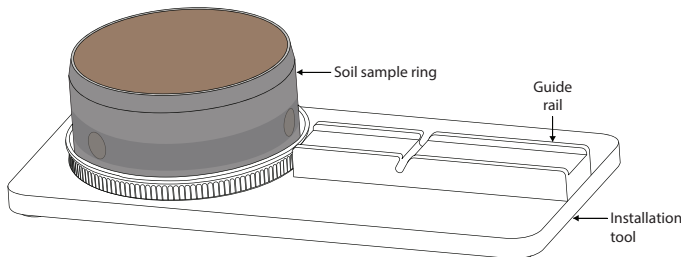

Figure 18 Soil sample ring on installation tool
3. Place the saturated soil sample in the installation tool (Figure 18).
4. Align one of the soil sample ring drill holes with the installation tool guide rail (Figure 18).